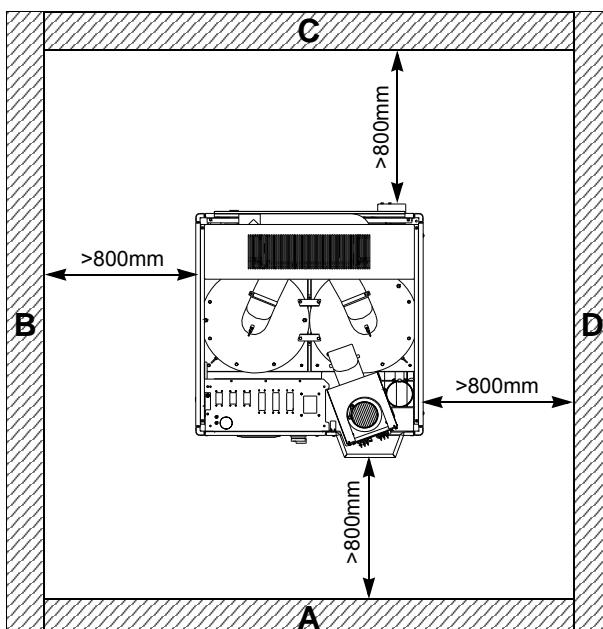

Fig. 5
2. Observe the minimum positioning clearances shown in **Fig. 5 - Page 15**. Failure to observe these clearances could impede installation work or prevent access to the machine for maintenance purposes.